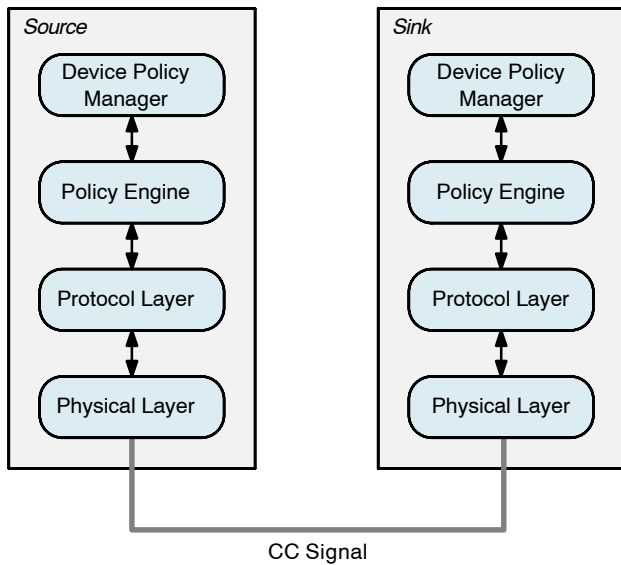

Figure 19. USB PD Communications Stack
USB Power Delivery (PD) provides a way for a Source and Sink device to negotiate output power settings, allowing for increased power delivery up to 100 W. USB PD uses the CC signal that is passed through the USB cable to provide the link between a Source device and a Sink device. In order to communicate properly over the CC signal, all USB PD-capable devices include four major communication components, the Physical Layer, Protocol Layer, Policy Engine and Device Policy Manager as shown in Figure 19.